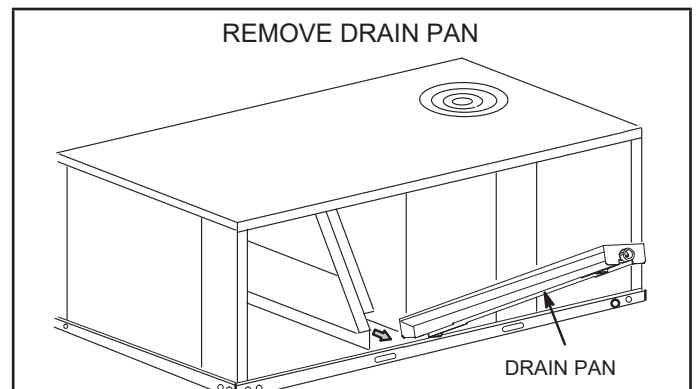

FIGURE 11
- 2 - Lift the front edge of the drain pan and slide pan out of unit. See FIGURE 11.